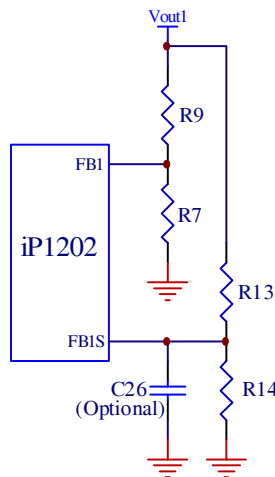

Fig. 17: Typical scheme for output voltage setting
Both outputs of the iP1202 will shut down if either one of the outputs experiences a voltage in the range of 115% of  $V_{OUT}$ . The overvoltage sense pins FB1s and FB2s are connected to the output through voltage dividers,  $R_{13}$  and  $R_{14}$  (Fig. 17), and the trip setpoints are programmed according to equation (1). Separate overvoltage sense pins FB1s and FB2s are provided to protect the power supply output if for some reason the main feedback loop is lost (for instance, loss of feedback resistors). An optional 100pF capacitor (C26) is used for delay and filtering purposes. If this redundancy is not required and if Type II control loop compensation scheme is utilized, FB1s and FB2s pins can be connected to FB1 and FB2 pins respectively.
When selecting output capacitors, it is important to consider the overshoot performance of the power supply. If the amount of capacitance is not adequate, then, when unloading the output, the magnitude of the overshoot due to stored inductor energy, and depending on the speed of the response of the control loop, can exceed the overvoltage trip threshold of the iP1202 and can cause undesirable shutdown of the output. The magnitude of the overshoot should be kept below 1.125VOUT. To prevent the overshoot from tripping the output a delay can be added by installing capacitor C26 as shown in Fig.17.